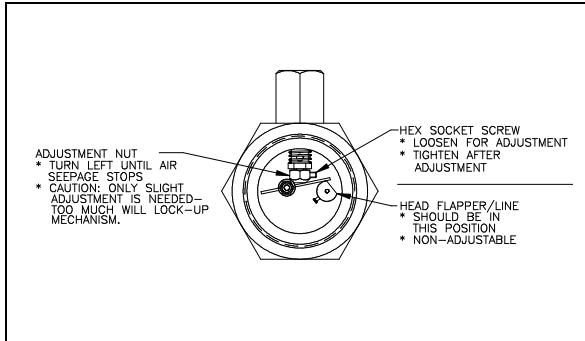

Figure 1
2. If the signal gas begins to leak, adjust the level switch per Figure 1.